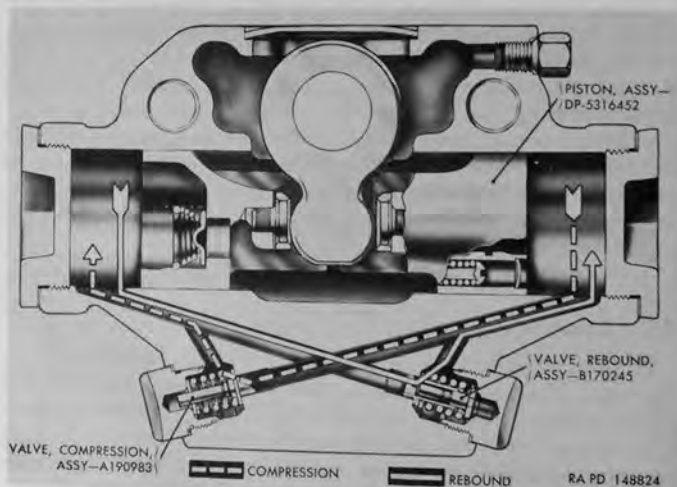

Figure 208. Schematic sectional view of shock absorber showing operation.
a. General.—The flow of fluid within the shock absorber during operation is schematically illustrated in figure 208. Two separate actions take place, compression and rebound. Each phase of operation is described separately under *b* and *c* below.